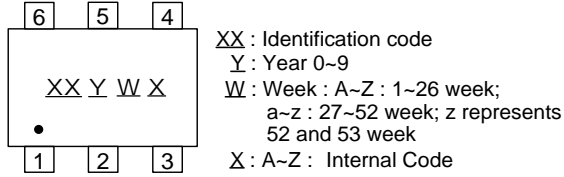

**Figure 1. Load Circuit and Voltage Waveforms**
$V_{CC} (A) = 1.5V \pm 0.1V$ ,  $T_A = -40^{\circ}C$  to  $+85^{\circ}C$ , See Figure 1
$V_{CC}(A) = 1.8V \pm 0.15V$ ,  $T_A = -40^{\circ}C$  to  $+85^{\circ}C$ , See Figure 1
$V_{CC}(A) = 2.5V \pm 0.2V$ ,  $T_A = -40^{\circ}C$  to  $+85^{\circ}C$ , See Figure 1
$V_{CC}(A) = 3.3V \pm 0.3V$ ,  $T_A = -40^{\circ}C$  to  $+85^{\circ}C$ , See Figure 1